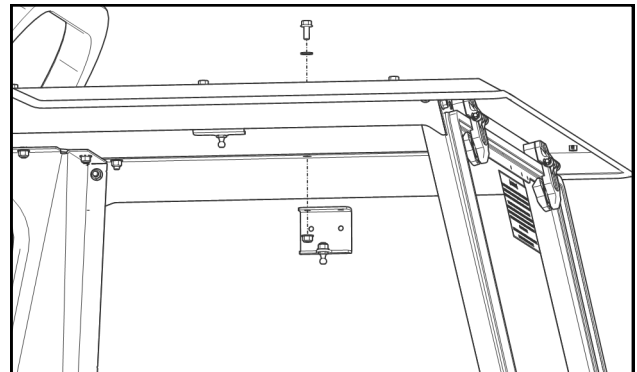

Fig. 14.1 (Gas Shock Mounts, for steel doors only)
- 14.1** Install a gas shock mount under and against the side header, through the rear hole in the mount and thru the hole left open in the previous step, using the hardware not used in that step. See Figure 14.1